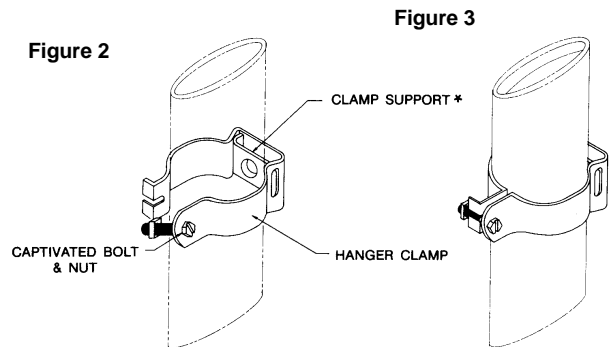

Figure 3
4. Slide the cable/waveguide into the hanger clamp, then clip the tabbed side of the hanger closed with the captivated bolt and nut. Tighten the hanger hardware for a snug fit around the transmission line. See Figure 3.